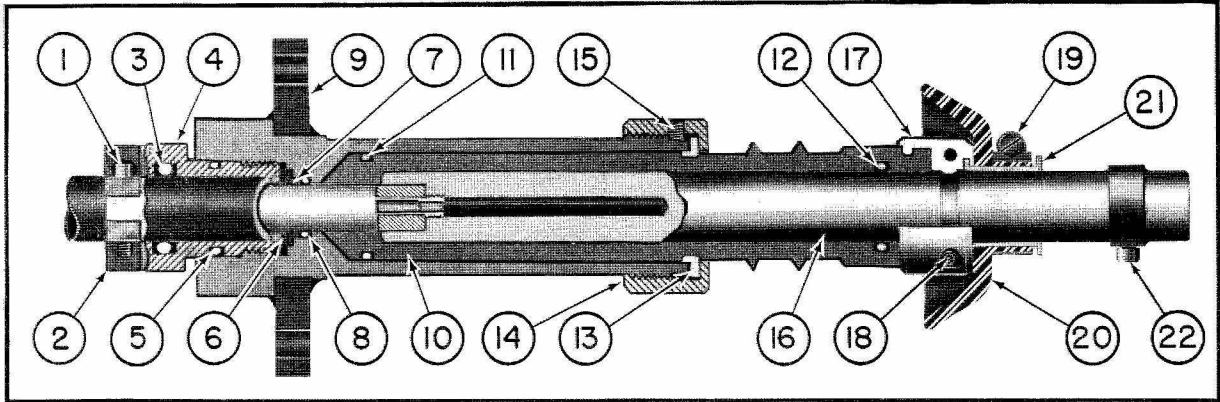

Figure 5-12a. AB-562(XN-1)/U Assembled
(9) **AB-562 (XN-1)/U Detailed Assembly.** - This pressure fitting is a combination end seal and antenna support base for the A1-497/U antenna, using RF coaxial cables having a jacket OD of 0.855 inch minimum - 0.910 inch maximum. The dielectric has an OD of 0.655 inch minimum - 0.695 inch maximum. The cable is terminated in the fitting. Assembled and exploded views are shown in figures 5-12a and 5-12b. In these views the parts are assigned piece numbers which are used for reference in the assembly instructions. Table 5-8 lists the stock numbers for the parts.